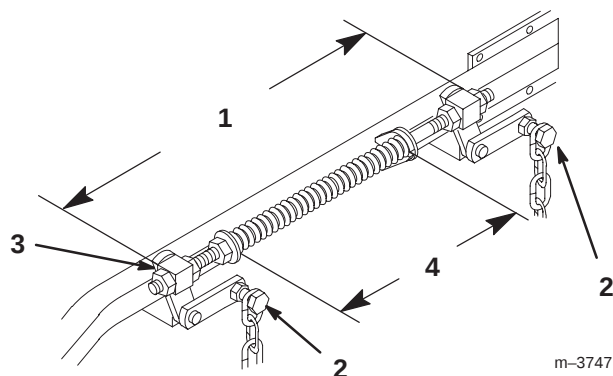

Figure 61
6. Loosen the four top chain bolts in slots. Check the length of the rod/swivel assemblies. Distance from outside of rear swivel to outside of front swivel should be 19-17/32 in. (496 mm) (Fig. 61). Make sure that all four swivels move freely in holes.
2. Springs are compressed so the distance between the two large washers should be 11 in. (279 mm) (Fig. 61).
3. Adjust by turning nut in front of each spring (Fig. 61). Clockwise will shorten spring; counter-clockwise will lengthen spring.